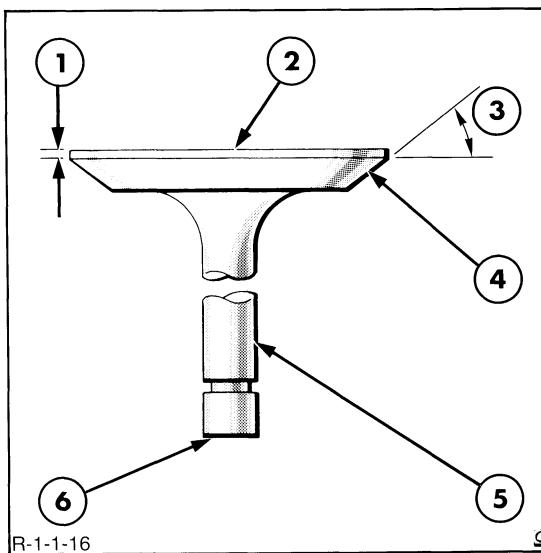

Figure 16
4. Any valve refacing operation should be closely coordinated with the valve seat refacing operation so that the finished angle of the valve is 0,5° less than the valve seat to provide an interference angle for better seating. Adjust the valve refacing tool to obtain a face angle of 45,5°, Figure 16.
1. The critical inspection points of the valves are shown in Figure 16. Inspect the valve face and the edge of the valve head for pits, grooves, scores, or other defects. Inspect the stem for a bent condition and the end of the stem for grooves or scores. Check the valve head for cracks, erosion, warpage, or burn. Minor defects such as small pits or grooves, can be removed. Check the valve tip for pits or grooves and replace the valve if such a condition exists. Discard valves that are severely damaged.